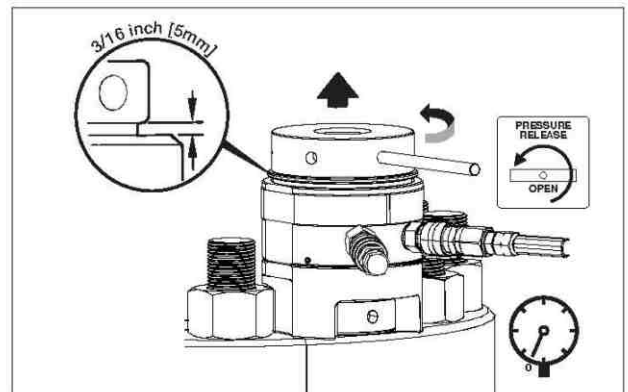

Figure 4.4-1 Turning Up the Threaded Puller
- 4.4.1 BEFORE applying any hydraulic pressure, turn up the threaded puller at each stud as required, so that approximately a 3/16 inch [5 mm] gap appears between the fully retracted piston and the threaded puller. See Figure 4.4-1.